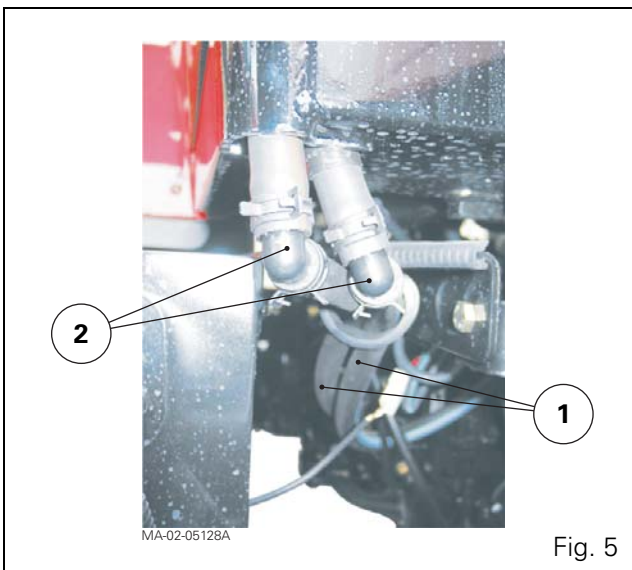

Fig. 5
- 17.** Mark the heating hoses (1) (Fig. 5) at the base of the cab right-hand pillar.
Pinch them both upstream and downstream of the square unions (2) (Fig. 5) in order to keep fluid loss to a minimum.